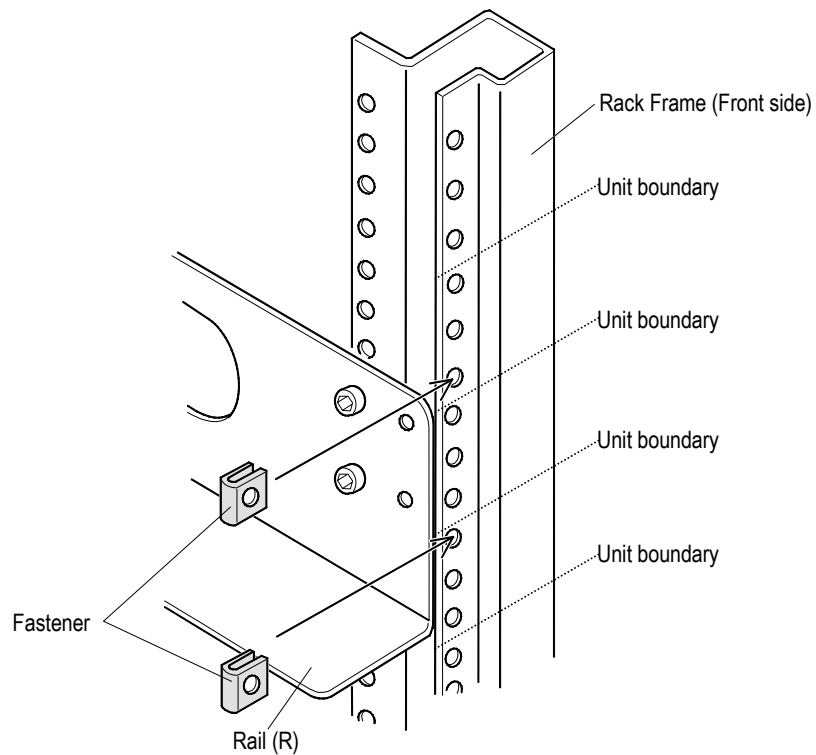

Figure 2.2.10 Installing Fasteners on the Front Side of the Rack Frame
- (a) Fit the two fasteners to each of the right and left beams on the front side of the rack frame referring to Figures 2.2.9 and Figures 2.2.10.